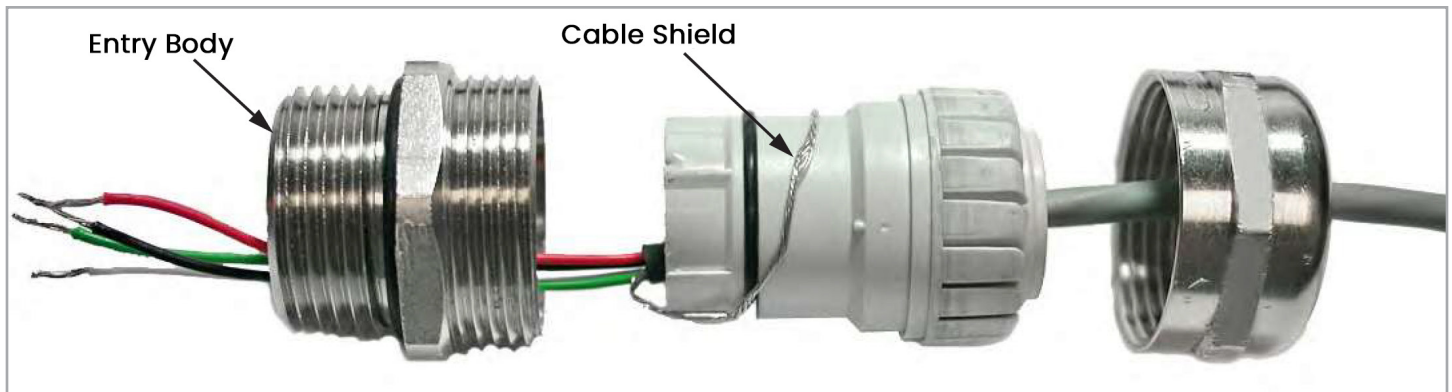

Figure 89: Proper cable gland assembly (Panametrics p/n 419-215)
- b. Route the 4-wire power/analog output cable through the cable gland as shown in *Figure 89* below.
The cable shield must be terminated in the cable gland as shown in *Figure 89* below.
- b. Route the 3-wire RS232 cable through the cable gland as shown in *Figure 89* on page 70.
The cable shield must be terminated in the cable gland as shown in *Figure 89* on page 70.